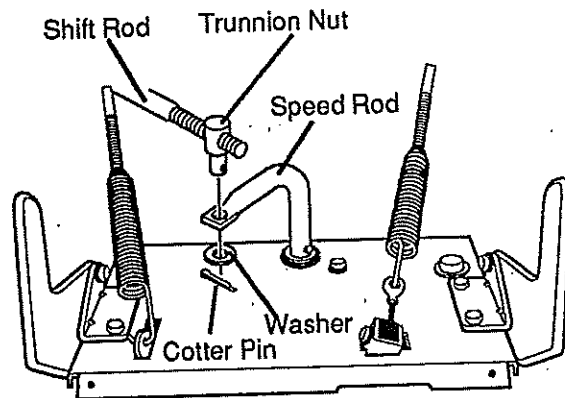

FIG. 7A-ASSY
- Put end of trunnion nut through hole in speed rod and attach (1) flatwasher and (1) cotter pin (found in parts bag) (See FIG. 7A-ASSY).